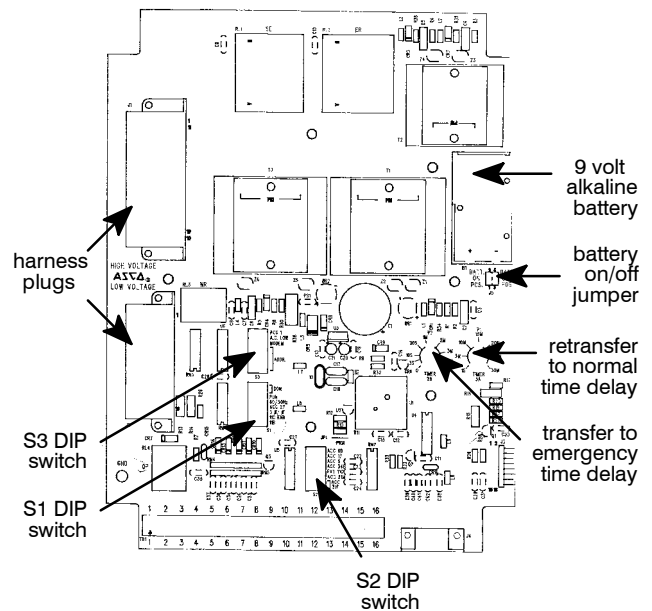
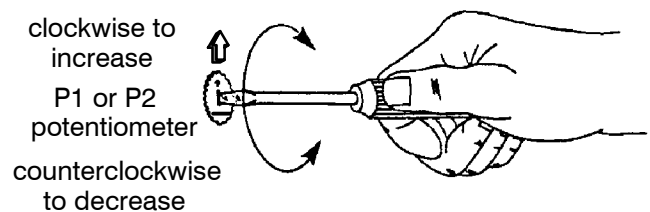
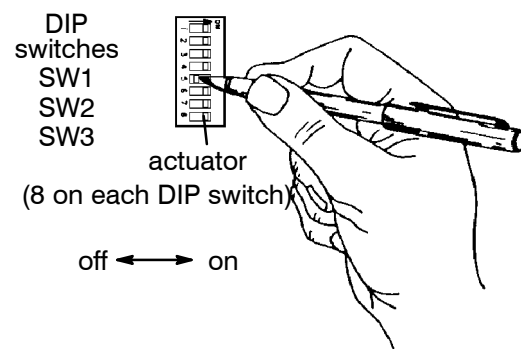

Figure 4-2. Location of potentiometers.
Figure 4-3. Changing time delay potentiometers.
Figure 4-4. Setting DIP switch actuators.
- Locate the appropriate adjustment potentiometer or DIP switch for the setting that you want to change. Refer to Table 4-1 and Table 4-2 on page 4-1 and Figure 4-2, Figure 4-3, Figure 4-4 on page 4-2.
- Use a small screwdriver to turn the potentiometer clockwise to increase the time delay or counterclockwise to decrease it. See Figure 4-3.
- Use a ball-point pen (or similar pointed tool) to slide the switch actuators left or right so they match the illustration next to the setting (left = off, right = on). Recheck the setting. See Figure 4-4.
The engine exerciser included in ASCO Series 300 Automatic Transfer Switches provides a once a week 20-minute exercise period. It occurs immediately when the SET ENGINE EXERCISER push button is pressed (and held for at least 5 seconds), and then at the same time weekly thereafter. A 9 volt alkaline battery (*Duracell*® MN1604, *Eveready*® 522, or *Panasonic*® 6AM6) is furnished and installed in the controller to maintain the setting. The battery jumper block must be shifted to the ON position. See Figure 4-2 on page 4-2.